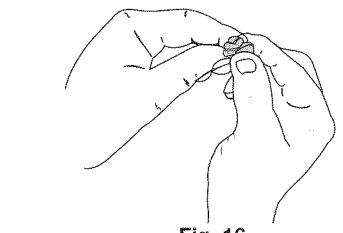

Fig. 16
- Squeeze the filter to spread and remove excess oil (Fig. 16).